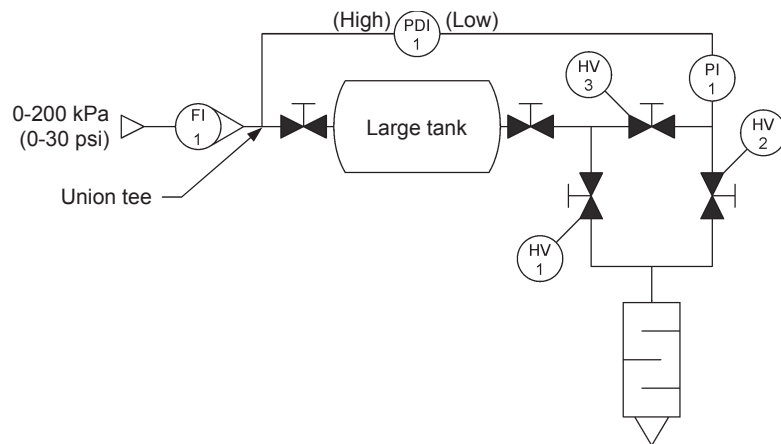

Figure 3-19. Second setup (closed valves shown in black).
- 20.** Use plastic tubing to connect the equipment as the piping and instrumentation diagram (P&ID) of Figure 3-19 shows.
- 32.** Replace the large tank by the small tank in your setup of Figure 3-19.